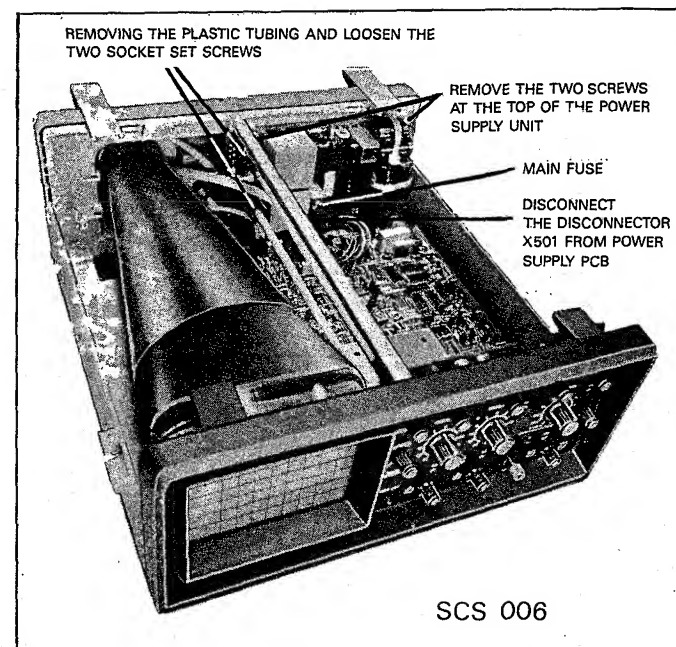

Fig. 6.1 Removing the power supply unit
Remove the plastic tubing which covers the coupling between the shaft and the potentiometer. (See fig. 6.1.)
- Remove the two screws at the top of the power supply unit holding it to the rear cover (See fig. 6.1.).
- Disconnect the connector X501 from the power supply PCB (Fig. 6.1.).